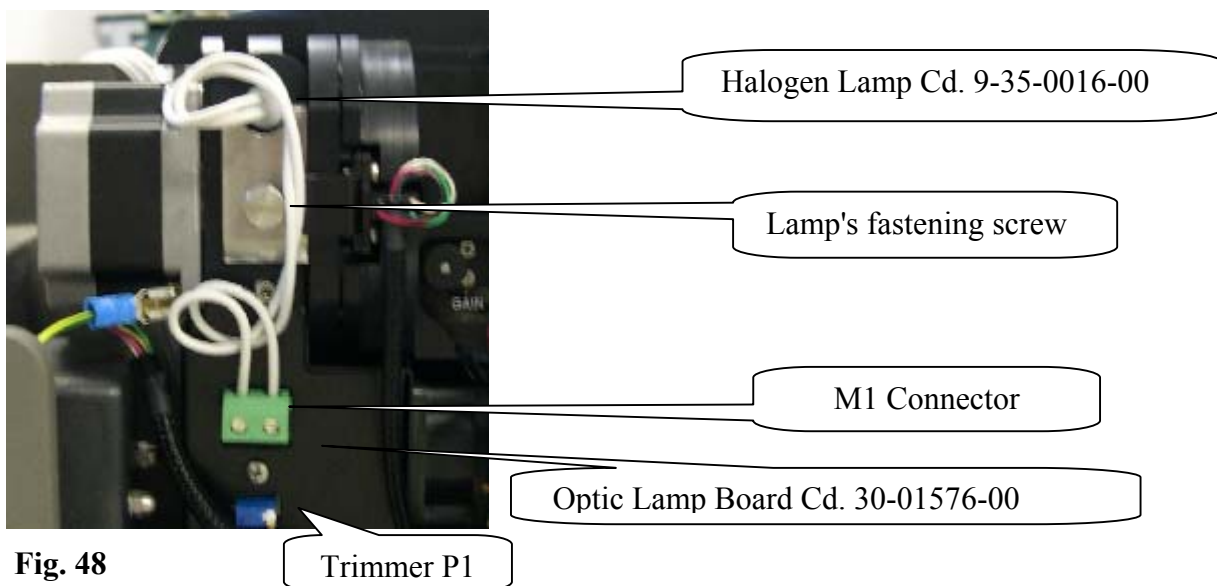

Fig. 48
2. Remove the lamp's electrical wires connected to the Lamp Regulator board by loosening the two screws on the M1 connector (Fig.48).
9. Make sure that the Regulator board for Connector M1 shows 6.0 volts \pm 0.1. If not, turn the P1 trimmer (Fig.48).
6. Remove the lamp's power supply wires connected to the Lamp Regulator board by loosening the two screws on the M1 connector (Fig. 48).
10. Remove the motor and substitute it with the new one (Fig. 48).